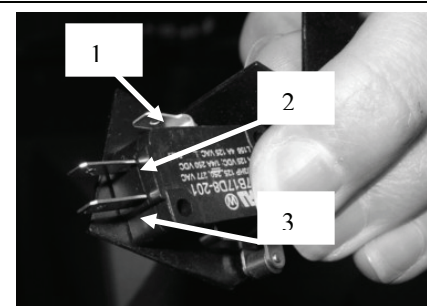

FIGURE 50
80. Route the ends of the main wiring harness (05-1704-B08197) with the female disconnect terminals (differentiated from the ring terminals and plastic female multi-pin connectors) across the radiator core support to the throttle switch. Connect the red/blue wire to the uppermost terminal ("1," **FIGURE 50**) and the red/white wire to the terminal directly below ("2"). Note that the lower terminal ("3") on the switch does not get connected (**FIGURE 50**).
84. Check operation of the interior arming switch with the key in the on position. The blue LED at the top of the switch (**FIGURE 50**) should illuminate when the switch is on.